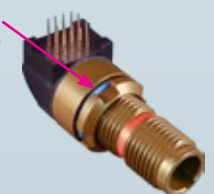

Fig. 16
2. Contact Insertion and Removal: Grommet seals on modern connectors (MIL-DTL-38999, Series 80 Mighty Mouse and others) depend on properly sized wires to compress the material and affect sealing. Damage to triple-ripple grommet seals during crimp-contact insertion and removal (see Fig. 16) may introduce a potential leak path. Glenair recommends (1) damaged or worn tools be discarded, (2) Contact insertion and removal be accomplished without twisting or turning the tool (side-to-side rocking will facilitate entry/release of the retention clip without damaging the grommet), and (3) the use of Isopropyl Alcohol to lubricate the tool/grommet interaction.